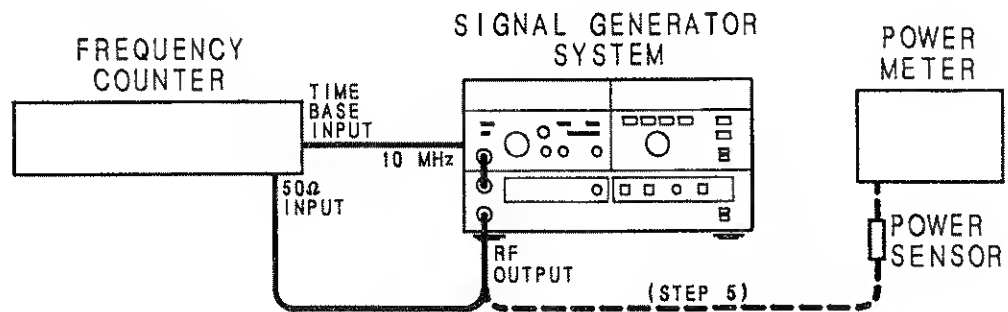

Figure 4-1. Frequency Range and Power Test Setup
1. Attach the Signal Generator's 10 MHz rear panel output to frequency counter time base input and select external time base for the counter. See Figure 4-1.